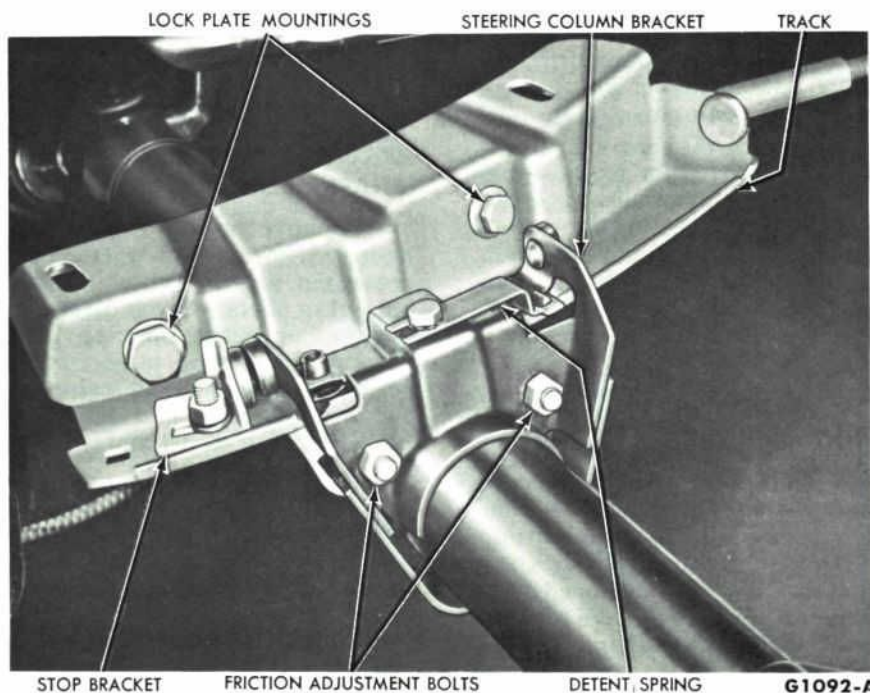

FIG. 16—Moveable Steering Column Adjustments
2. Remove both steering column opening shrouds at the instrument panel, and disconnect the wiring harness connectors. Remove the steering wheel and the steering column upper bearing. Remove the steering column track to pedal support bolts (Fig. 16).
3. Remove the steering column opening cover plate screws and pull the plate loose. Remove the stop bracket (Fig. 16) and the